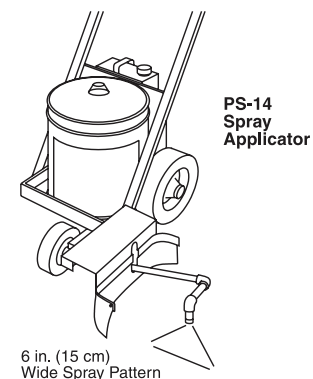

Figure 11
*Note: Following hydroblasting, a 24-hour drying period is required before tape can be applied. (See Figure 11.)